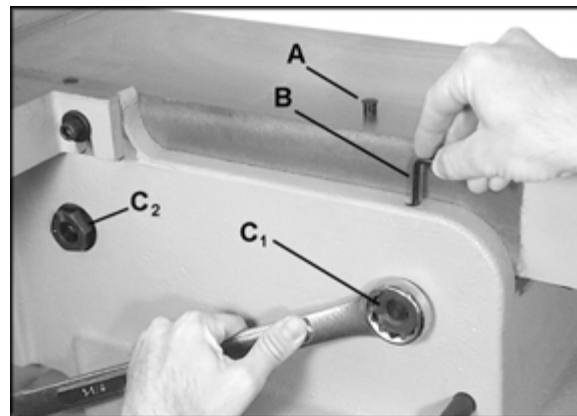

Figure 22
9. Each table has four cam adjustment devices, two in front and two in back. (C, Figure 22 shows one of these).
11. At the area of the table where the adjustment must be made, pry out the cap (A, Figure 22) from the hole.
12. There are two set screws in the hole. Insert a 4mm hex wrench (B, Figure 22) into the hole and loosen the upper set screw by turning the hex wrench counterclockwise. Remove the upper set screw from the hole.
14. Turn the hex nut (C1, Figure 22) with a 1-1/4" wrench. **This adjustment is sensitive and should be made in small increments.** NOTE: The rotation is different for left and right hex nuts; the right hex nut (C1) being turned in Figure 22 will be turned clockwise to raise that area of the table, or counterclockwise to lower that area of the table. The left hex nut (C2) shown in Figure 22 would be rotated in the opposite manner.
16. When the adjustment is satisfactory, with the tables now coplanar, tighten the lower set screw with the hex wrench (B, Figure 22).
18. Re-insert the cap (A, Figure 22) to keep dust and debris out of the hole.